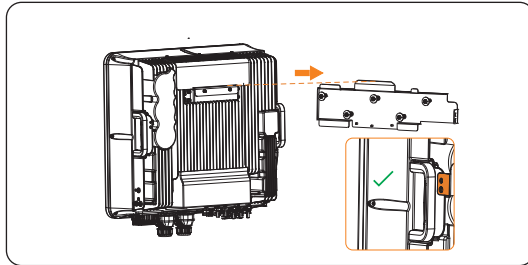

Figure 7-6 Hanging the device onto the bracket
Step 5: Pull out the handles on both sides of the inverter. Lift up the inverter collaboratively by the number of personnel in accordance with the local regulation and hang it onto the bracket. Make sure that the keyway on the back of the inverter is accurately put into the hooking groove of the bracket. If placed correctly, the leftmost side of the device will be next to the left inner side of the bracket (the location shown in Figure 7-6).